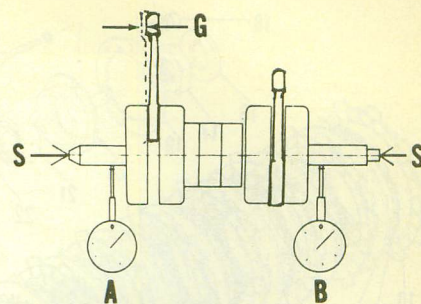

Fig. Y8-15—Refer to text for checking crankshaft for correct assembly or wear.
**CONNECTING RODS AND CRANKSHAFT.** The crankcase halves must be separated to remove the crankshaft. Refer to Fig. Y8-21. Connecting rods, crankpins rod bearings and the center main bearings and seal are removed by pressing the crankshaft apart. The crankshaft should be disassembled **ONLY** if required tools are available to correctly check and align the reassembled crankshaft. If side shake (G—Fig. Y8-15) at piston pin end of connecting rod exceeds 2MM (0.08 in.), the connecting rod, crankpin and lower bearing should be renewed. Shake (G) should be 0.8-1.0MM (0.032-0.039 in.). Side clearance of connecting rod between the crankshaft counter weights can be measured with a feeler gage. Side clearance should be 0.1-0.3MM (0.0039-0.012 in.). With crankshaft supported between lathe centers (S—Fig. Y8-15), maximum eccentricity